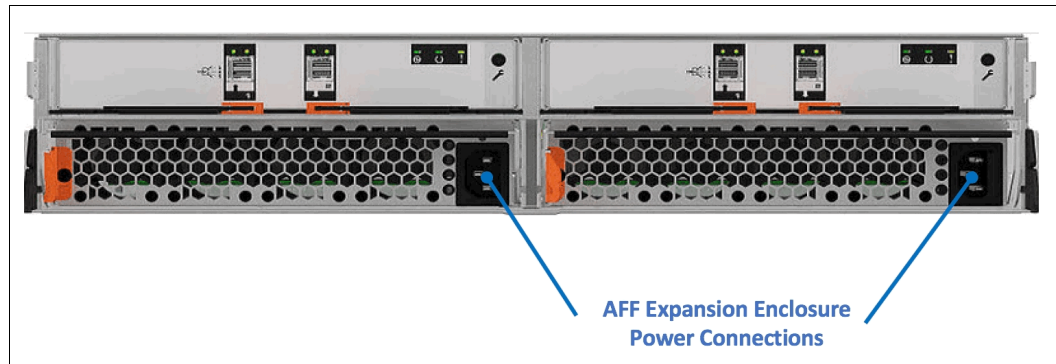

Figure 6-37 Model AFF expansion enclosure power connections
8. Connect the power cords to the power supply units in the expansion enclosure. See Figure 6-37.